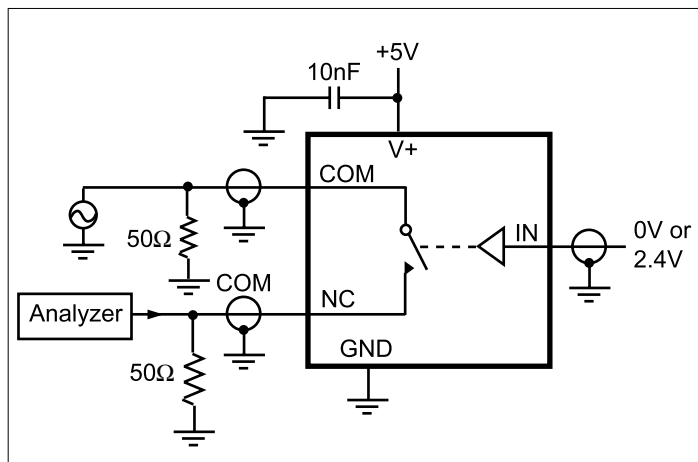

Figure 3. Off Isolation
7. Off Isolation = 20log₁₀ V_B / V_A. See Figure 3.